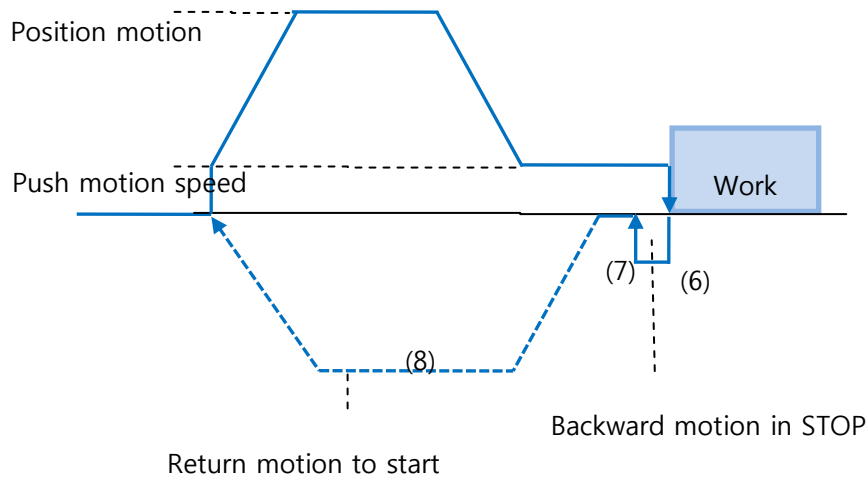

Figure 10.6.2
- ⑥ Additional the next step is needed as below diagram (Figure 10.6.2).